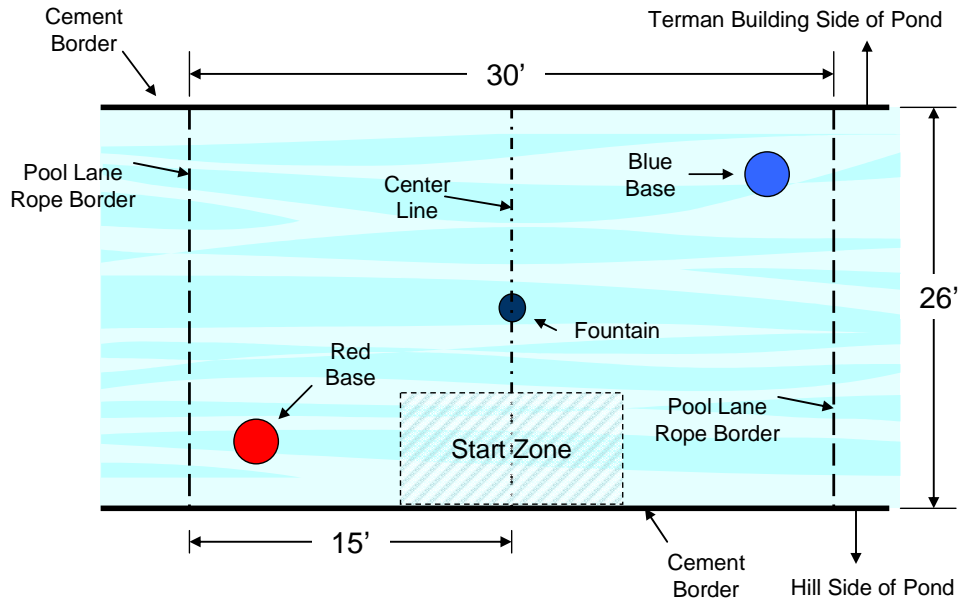

Figure 1: Field layout and dimensions
- The Field is comprised of a portion of Terman Pond, measuring approximately 26 ft. wide by 30 ft. long (see Figure 1). One fountain spout will be located at the approximate center of the Field. Every effort will be made to ensure that the fountain will be off during grading sessions and public presentations.
- The Bases will be located in the Field approximately as shown in Figure 1. Variations in location and which side of the field is assigned to Red or Blue will be determined by the Admirals at their discretion.